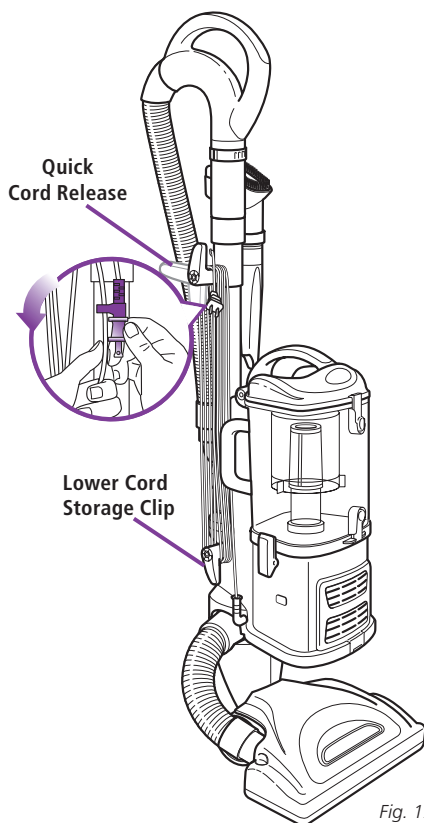

Fig. 17
- 2 Rotate the upper quick cord release to its upright position and coil the power cord loosely around the two clips. Clip the plug onto the cord to secure. (Fig. 17)